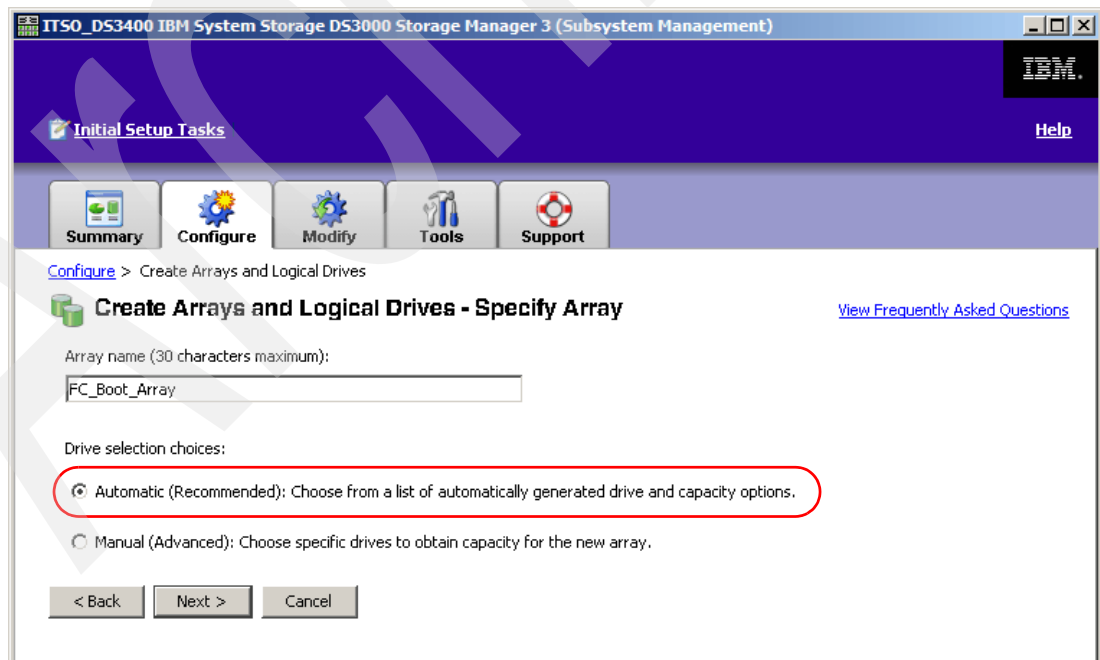

Figure 27-19 Drive selection choices
4. In Figure 27-19, specify the array name, in our example FC\_Boot\_Array. There are two drive selection choices. We select **Automatic**.